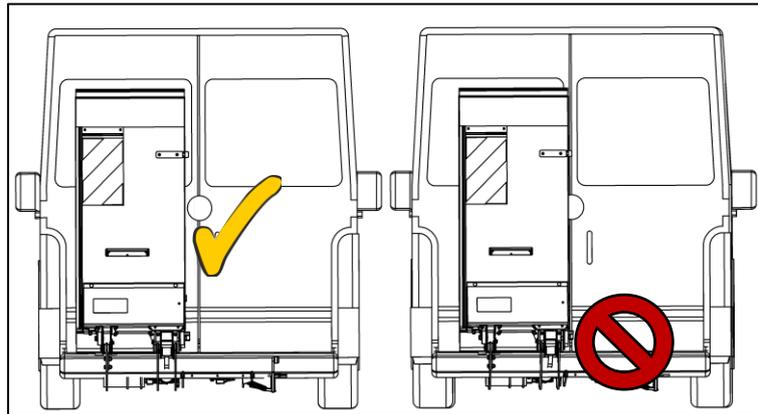

Fig. 33
- Shift the lifting gear to the left so that the brand emblem on the rear door does not collide with the platform (see Fig. 33).